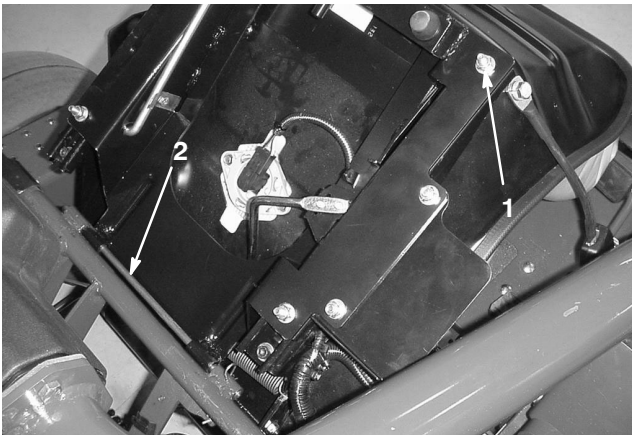

Figure 4
1. Remove the locknut (Fig. 4) and seat bracket (used for shipping) attached to the right rear seat adjuster screw and discard them. Bracket not shown.
2. Remove the cotter pin and seat pivot rod securing the seat (shipping position). Remove the seat (Fig. 4). Discard the cotter pin.